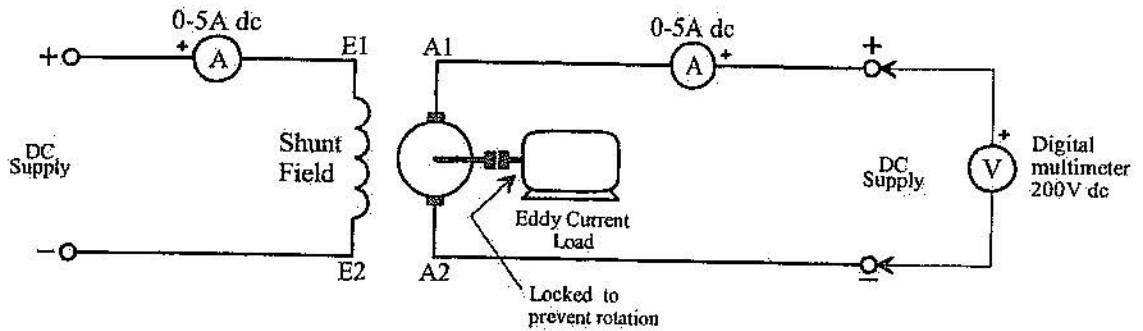

Figure 1
- Connect the shunt motor, with eddy current load attached, as shown in figure 1. Ensure the eddy current load is "locked" to prevent rotation.